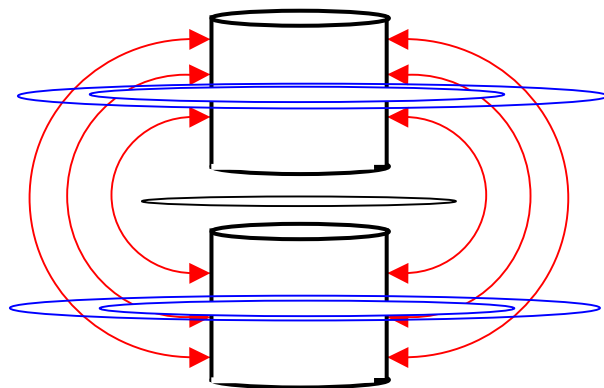

FIGURE 1 - E AND H FIELDS OF AN EH ANTENNA
You need to understand the E and H fields of an antenna before going into the circuit details of the network. Figure 1 depicts a short fat dipole. However, a wire dipole would have similar electric (E) and magnetic (H) fields. It is important to note that the E field lines (only a few are shown) must leave or enter the surface at right angles to the surface and are circular between surfaces. The E field lines are shown in red and only a cross section is depicted. H field lines are orthogonal and surround the E field lines.
Note that there are two (2) H fields shown in Figure 1. These are explained in detail in the theory section of this web site.